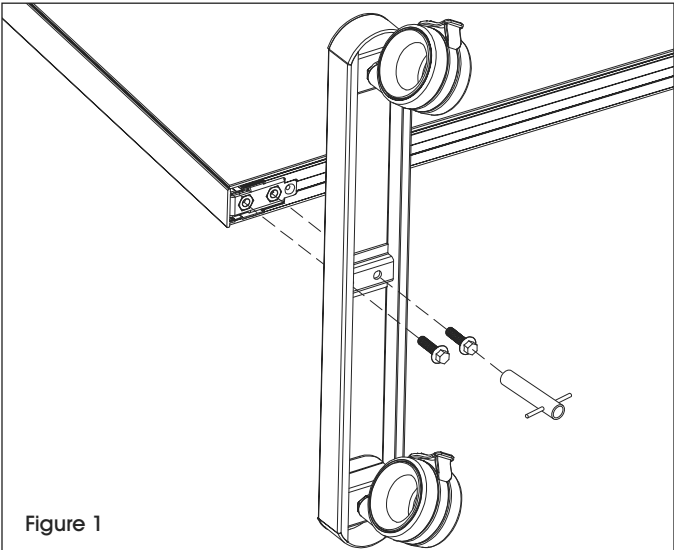

Figure 1
2. Align base perpendicular to board and ensure that holes on base align with holes on board. Insert two flange bolts and tighten using wrench. (See Figure 1)